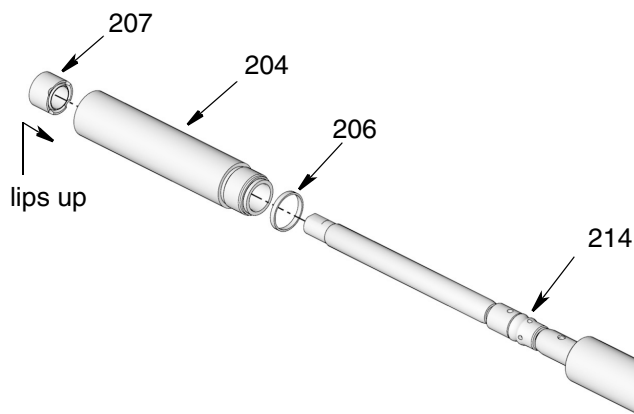

FIG. 40
11. Apply a thin layer grease to seal (206) and install around pump cylinder (204) (FIG. 40).
12. Apply a thin layer of grease to piston seal (214).
13. Thread pump cylinder (204) to spacer cylinder (205). Use a wrench to tighten securely. Torque to 45-55 ft lbs (61-74.57 N.m).
14. Apply a thin layer of grease to intake seal (207) and install seal with lips facing up inside pump cylinder (204) as shown in FIG. 40.